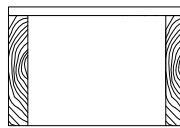

Figure 24E
5. Use (2) 14-1/2" [368 mm] and (2) 17" [432 mm] 2 [51 mm] x 12"s [305 mm] to construct the box sides. Nail the 3/4" [19 mm] plywood fixture to the box. See **Figure 24E**.